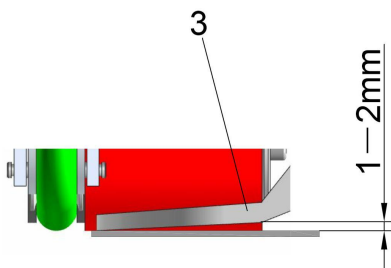

Figure 5
1. The distance between hot air nozzle and ground should be shown as figure 5. (We have adjusted the distance before leaving factory) .